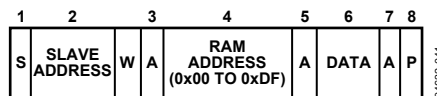

Figure 39. Single Byte Write to the RAM
- To write a single byte of data to the RAM. In this case, the command byte is RAM Address 0x00 to RAM Address 0xDF, and the only data byte is the actual data, as shown in Figure 39.